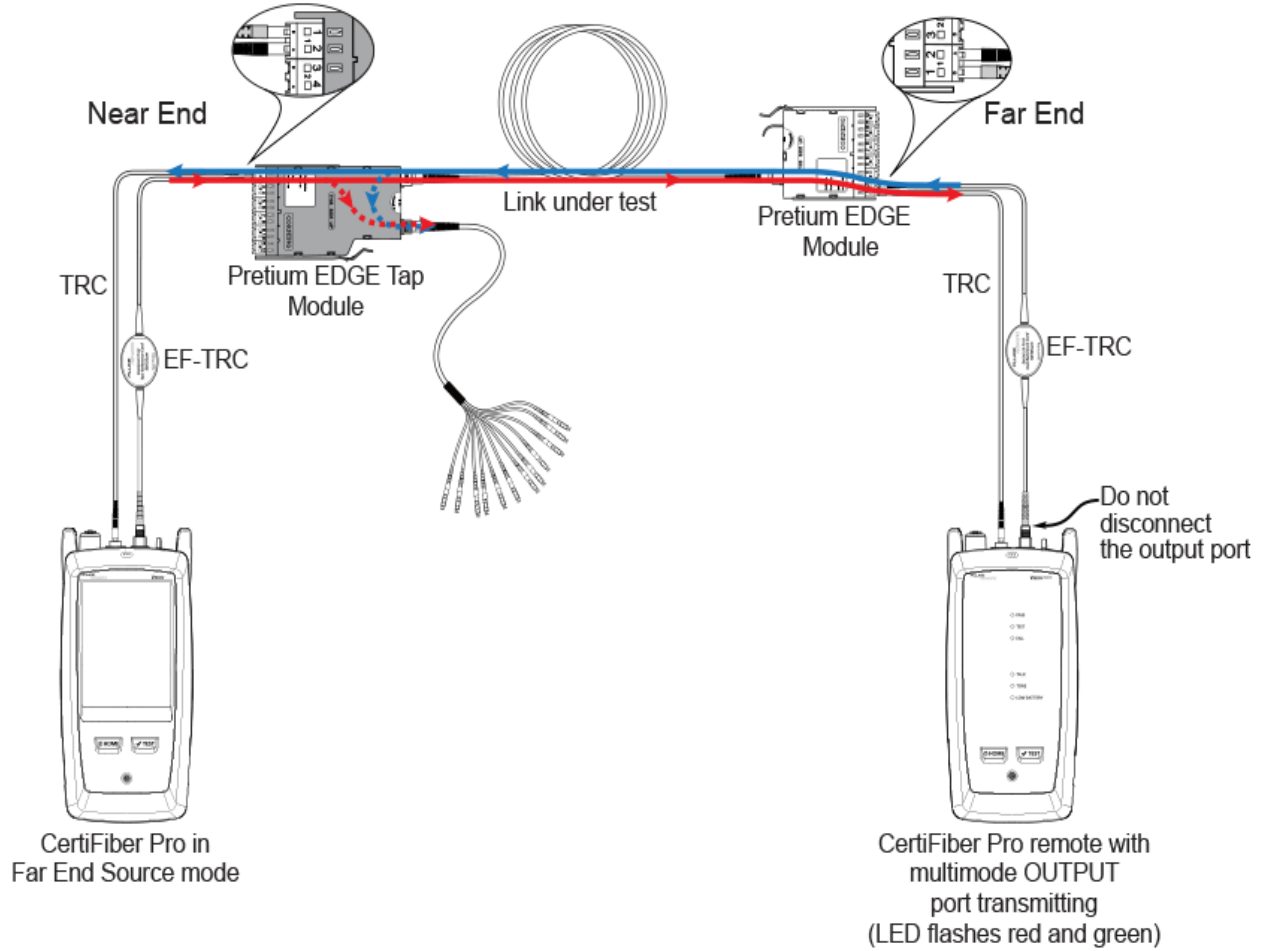

Figure 4. Connections for Testing the Network Links
2. Connect the TRCs to the near and far ends of the links, as shown in Figure 4.